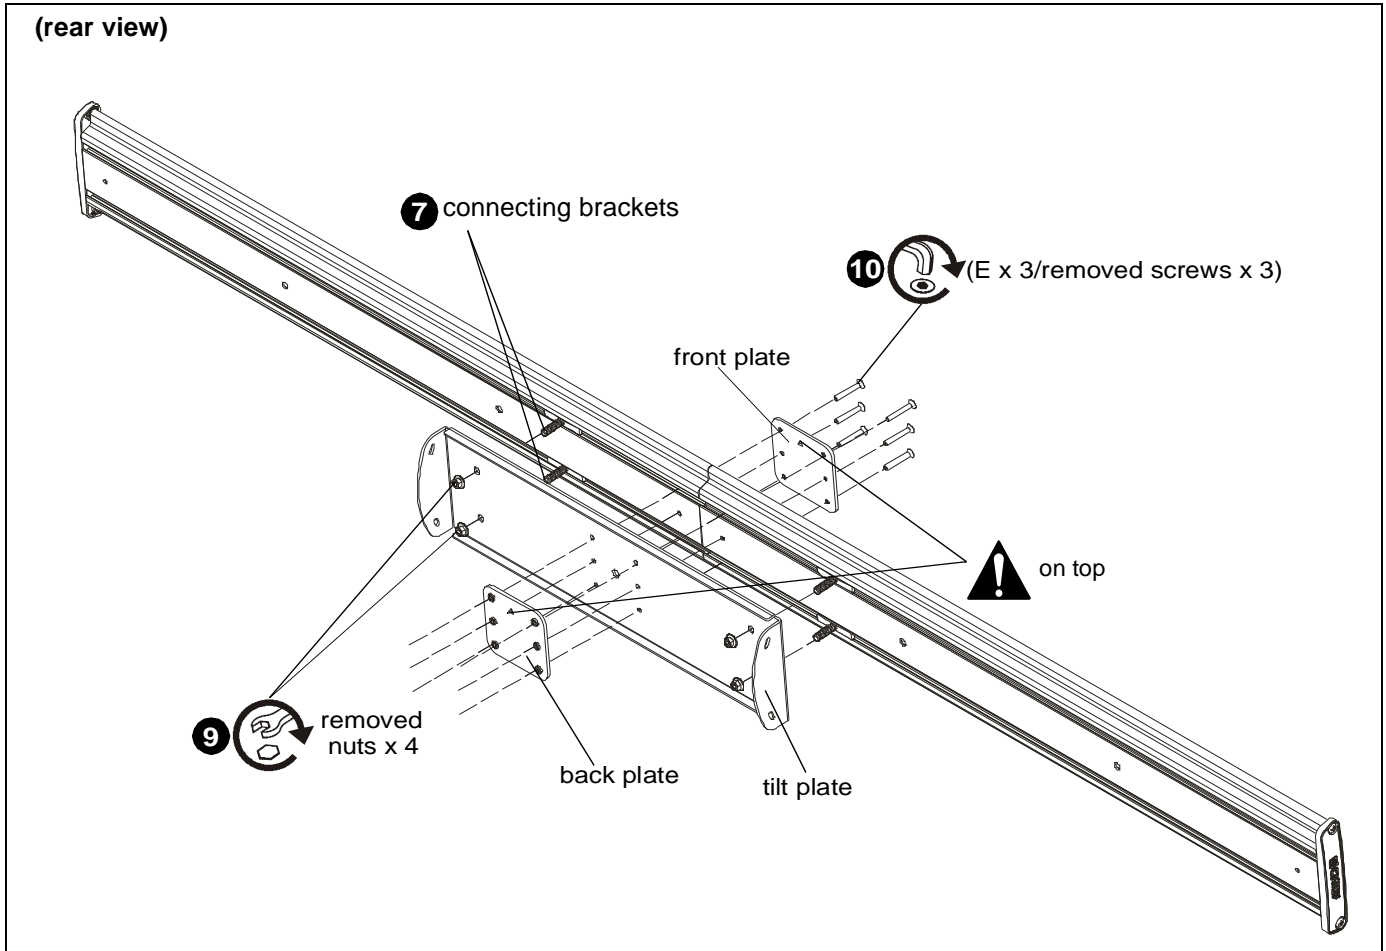

Figure 5
7. Slide two of four connecting brackets from XPAU head assembly into corresponding groove on FCA623 interface. (See Figure 5)
8. Align four connecting brackets with outside four holes on tilt plate. (See Figure 5)
9. Use four nuts removed in Step 4 to secure tilt plate to new head assembly. (See Figure 5)
10. Install six #10-24 x 1 1/2" flat head cap screws (E and removed screws) through front plate, new head assembly, tilt plate and back plate to create complete head assembly. (See Figure 5)
**IMPORTANT ! :** Make sure back plate and front plate are reassembled correctly. The triangles must be at the top when they are reattached! (See Figure 5)